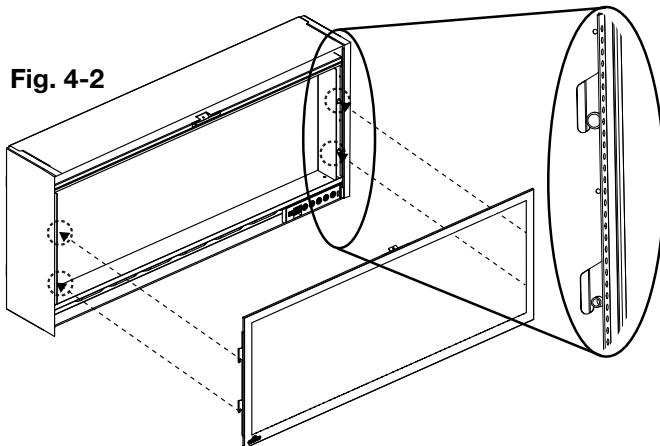

Fig. 4-2
1. Install the front glass by aligning the pins on the appliance. Move the glass in and down to engage with the brackets (**Fig. 4-2**).